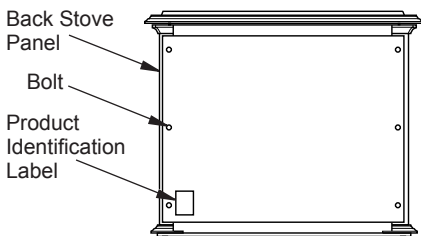

Figure 5 - Removing Back Panel
4. Remove back panel from stove (see Figure 5). Use an adjustable wrench or a 10 mm socket. Remove six (6) bolts and washers. Keep bolts and washers to reattach back panel later.
4. If not already removed, remove back panel from assembled stove body (see Figure 5, page 9). Use an adjustable wrench or a 10 mm socket. Remove six (6) bolts and washers. Keep bolts and washers to reattach back panel later.